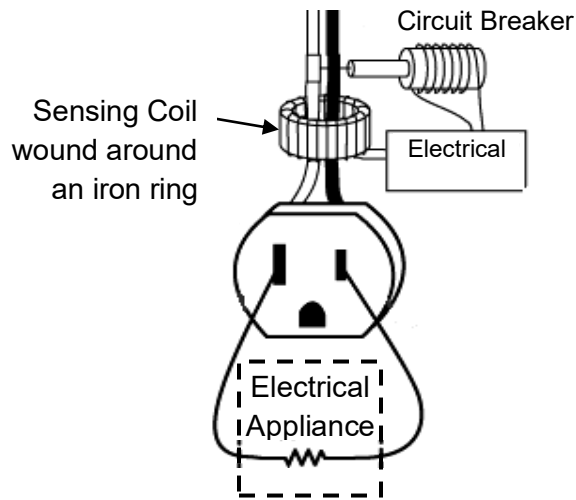

Fig. 5.1
- 5 (a) Fig. 5.1 shows a ground fault interrupter (GFI) - a device used in a.c. outlets where the risk of electric shock is high, e.g. bathrooms. The GFI consists of a sensing coil wound around an iron ring that surrounds the wires that transmit electricity to the appliance.